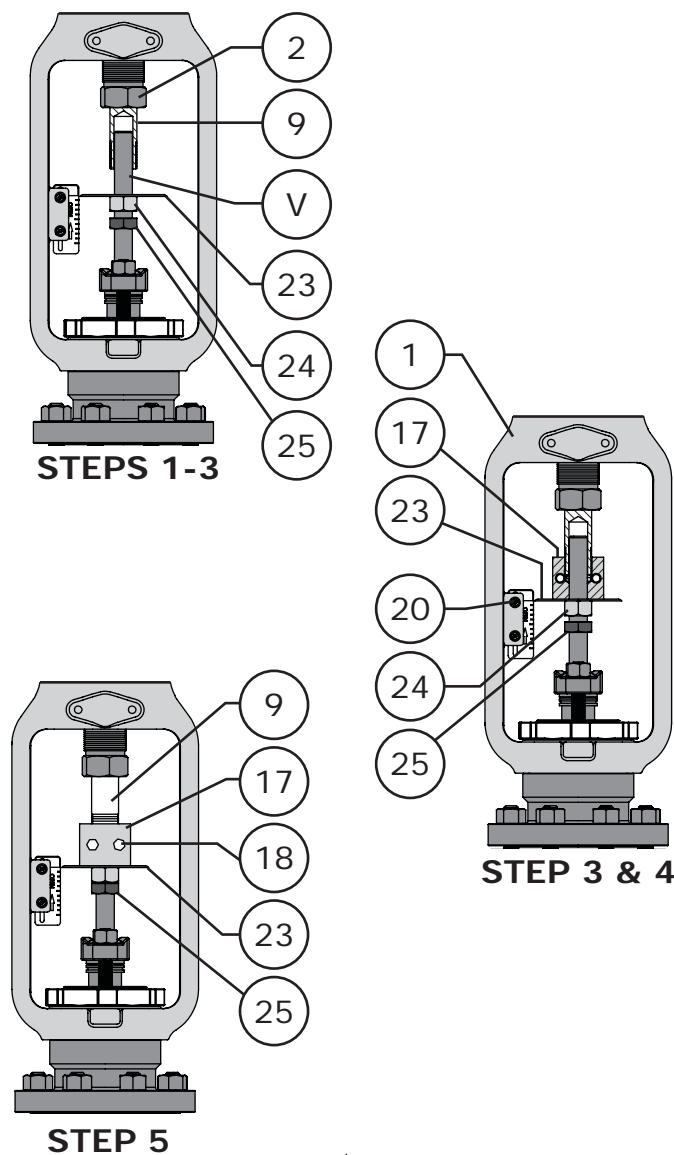

Figure 9 Connecting Block Installation
NOTE: The threads of the actuator stem (Key 9) and valve stem (Key V) should engage the threads of the connecting block (Key 17) by a distance equal to that of the diameter of the stem or greater. Refer to Figure 9.
- A Loosen the jam nut (Key 25) and hex nut (Key 24). Lower the jam nut, hex nut, and travel disc (Key 23) away from the connecting block (Key 17). Refer to Figures 9 -11.